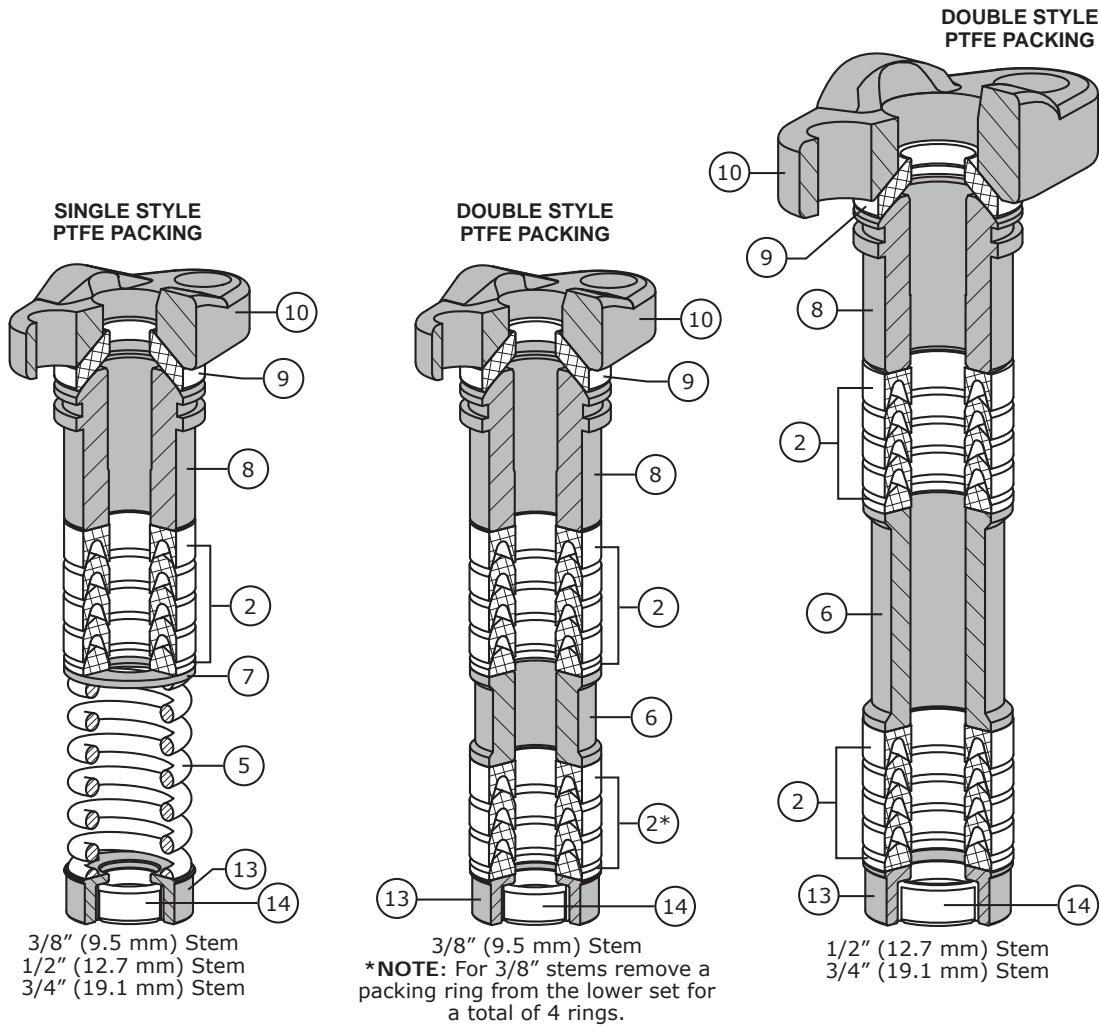

Figure 8 Model 363 Control Valve PTFE Packing Diagrams
**Refer to Figure 8 & 9 for packing orientation and Key numbers for the following section.**
- A Refer to Figures 8 & 9 for single and double packing arrangements. Choose proper arrangement based on stem size and single or double configurations. Install bonnet as described in the Assembly section. Install packing box ring and packing arrangement as shown. Note that Key 4 is graphite filament wound material that typically looks like rope. Key 3 is graphite ribbon compressed into rings and not split as the graphite filament ring is. Install packing follower (Key 10) and flange (Key 12) and torque as per Table 2.
- B Install other packing parts according to the packing styles as seen in Figure 8 & 9. Be sure to lubricate the packing set (Key 2) with silicone based lubricant if set is present in assembly. Refer to **NOTE** on preventing trapped air between packing.
- C Place the live loaded packing follower (Key 10) on top of the packing followed. Install the spring washers (Key 8) onto the packing follower (Key 10) orientated as shown in Figure 8. Slide the packing o-ring (Key 9) onto the packing follower so that it rests on the top spring washer.